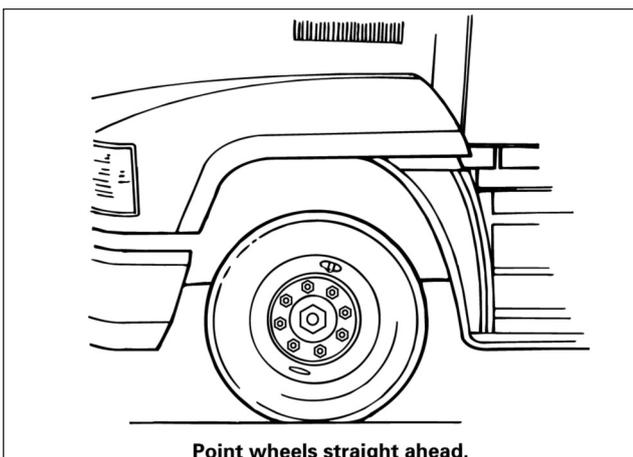

Fig. 1.6
1. Park the vehicle on a level surface with the wheels STRAIGHT. Block the wheels to prevent the vehicle from moving. Set the parking brake. Fig. 1.6